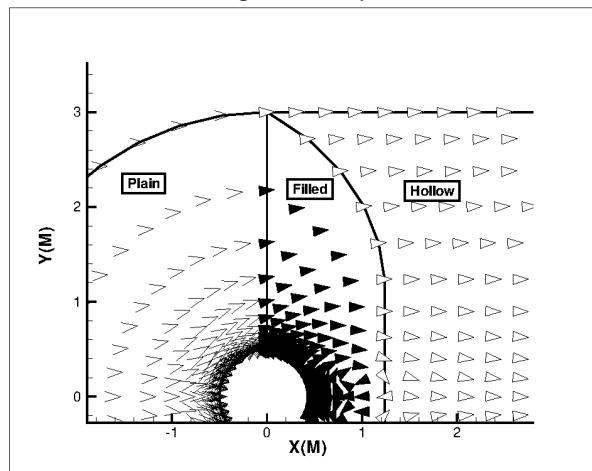

Figure 10-4. Arrowhead types for vector plots (plain, filled and hollow).
- **Head Style** - Right-click to choose an arrowhead style for the vectors. Figure 10-4 displays the available styles.